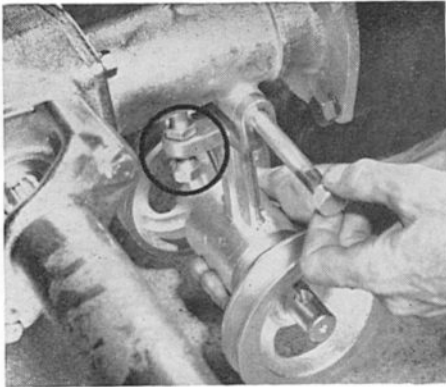

Figure 21
The first step in attaching the 25-inch Gang Units to the 30-inch Reel Mower is to attach the Power Take-off to the Swivel Casting (of the Drive Assembly) as shown in Figure 21.
**BELTS.** Belt tension is adjusted by the Belt Adjusting Screw and lock nut, circled in Figure 21. To increase tension, loosen the Lock Nut and turn the Adjusting Screw clockwise; to decrease tension, turn the Adjusting Screw counter-clockwise. When proper tension is reached (as with other Belts, proper adjustment is when moderate pressure applied to the mid-point of the Belt will deflect it approximately one inch) tighten the Lock Nut.